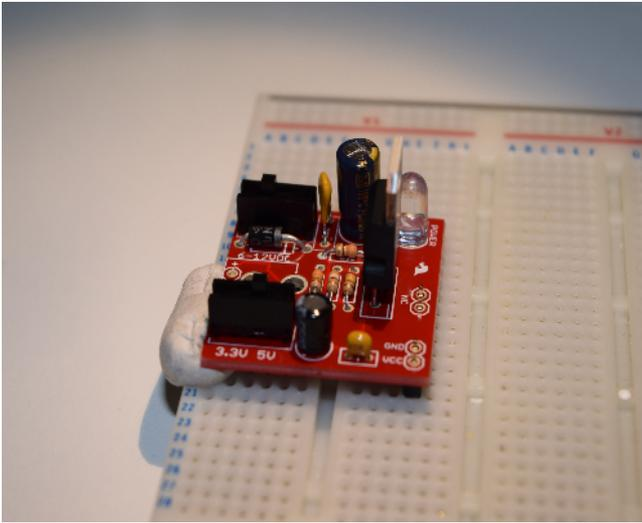

Figure 5-16. *Inserting into a breadboard*
5. Solder the headers into the holes marked VCC, GND, and NU. I find it best to insert the headers into a breadboard and use some blue-tack to hold the other edge up when soldering a breakout board (Figure 5-16).